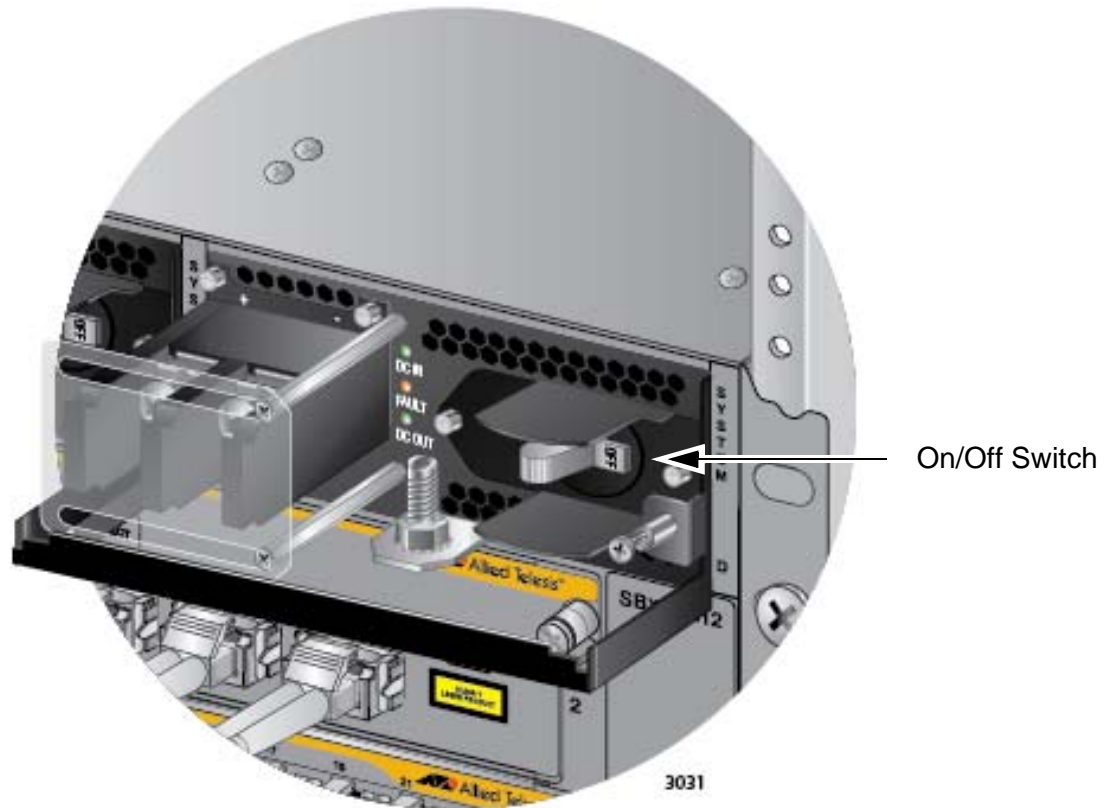

Figure 140. On/Off Switch on the AT-SBxPWRSYS1 DC Power Supply
3. Verify that the On/Off switch on the AT-SBxPWRSYS1 DC Power Supply is in the Off position. Refer to Figure 140 on page 219.
2. Verify that the On/Off switch on the AT-SBxPWRSYS1 DC Power Supply is in the Off position. Refer to Figure 140 on page 219.
2. Turn the On/Off switch on the power supply to the On position. Refer to Figure 140 on page 219.